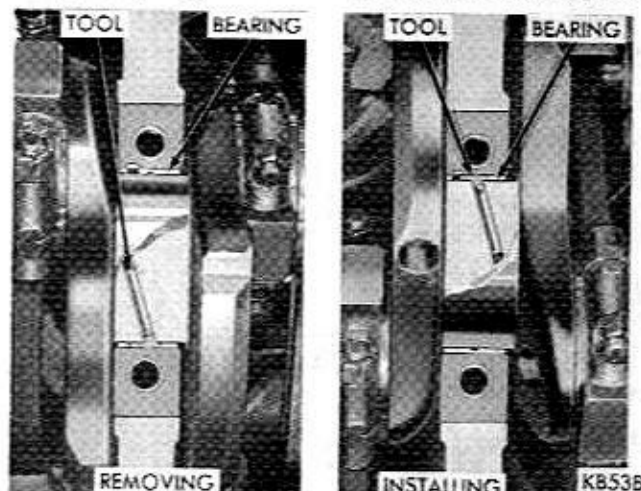

Fig. 41—Removing or Installing Upper Main Bearing
- (1) Remove oil pan and inspect the bearing cap identifying numbers.
- (2) Remove bearing caps one at a time. Remove upper bearing by inserting Tool C-3059 (Fig. 41) into oil hole on crankshaft.
- (3) Slowly rotate crankshaft clockwise, forcing out upper bearings.
- (1) Start bearing in place, and insert Tool C-3059 into oil hole of crankshaft (Fig. 41).
- (2) Slowly rotate crankshaft counter-clockwise sliding the bearing into position. Remove Tool C-3059.